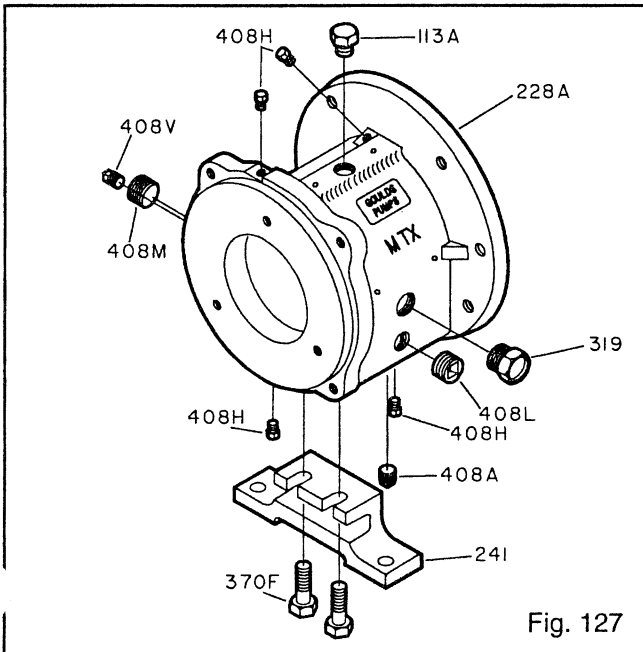

Fig. 127
1. Install the oil fill plug (113A), oil drain plug (408A), sight window (319), sight oiler plug (408J), four oil mist connection plugs (408H), or grease fittings (193) and grease relief plugs (113), and oil cooler inlet and outlet plugs (408L, 408M) in bearing frame (228) (Fig. 127).
2. Attach bearing frame foot (241) with bolts (370F). Hand tighten (Fig. 127).